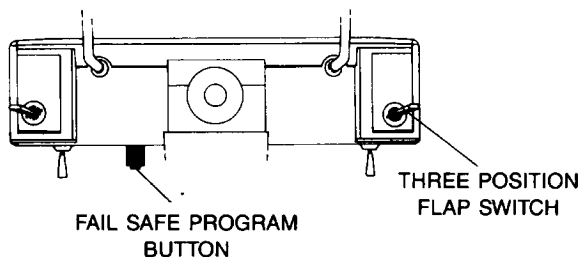

FIGURE 6
The VANGUARD PCM transmitter and receiver have a microprocessor for processing control information. If the control position data received at the receiver is not valid, or is being interfered with, etc., the data will not be accepted. Your VANGUARD PCM system gives you the choice of two types of fail safe modes. The first type is defined as "Hold." If the signal is lost or incorrect data is received by the receiver, the servos will stay at the position determined by the last good command and remain there until good data is restored. The second programmable fail safe "Position Mode" will cause the servos, after loss of a good signal data for more than one second, to go to predetermined positions, until such time as good data is received. You can select either mode of operation. If you are going to operate your system in the "Hold" mode nothing further is required other than turning the transmitter and receiver switches to the "ON" position. To operate in the predetermined servo "Position Mode" you must first turn both the transmitter and receiver switches "ON," and check the operation of the servos. Next, position the control sticks so that the model's control surfaces and throttle are at the desired positions, i.e., minimum-low throttle, slightly up elevator, etc., then, press the Fail Safe Program Push Button located on the top left front of the transmitter, (Figure 6). A beep will sound indicating you have programmed in the pre-set control stick positions. The control inputs you have set-in will be memorized and retained until such time as you disconnect the receiver battery or it is discharged. The receiver microprocessor will retain the memorized data inputs since it is furnished "KEEP ALIVE" voltage by the special PCM switch harness. You can check the fail safe operation by turning your transmitter "OFF" and "ON," or by turning another transmitter "ON" that is on the same channel. The servo should move to the programmed positions when an interfering signal is present, or when your transmitter is off. CAUTION: If you remove the receiver battery, or if it is discharged, you must reset the desired control memory data at the transmitter, otherwise, if you don't, you will be in the "HOLD" fail safe mode of operation. Fail Safe programming is only capable when in the PCM mode of operation.
The VANGUARD PCM 6 transmitter provides Flap-Elevator mixing which allows the elevator servo to move to a pre-set position whenever the flaps are lowered thus compensating for any pitch changes induced by the flaps. When the Flap switch, Figure 6, is in the "OFF" position the Flap Elevator (F→E) mix trimmer under the front panel is inoperative. When the Flap switch is moved to either position I or II you can adjust the F→E trimmer for the amount of compensation desired. Maximum elevator compensation will occur with the trimmer either fully clockwise (CW) or counter clockwise (CCW). For safety, if you do not desire to have any compensation, we recommend the F→E trimmer be centered so that inadvertent movement of the Flap switch will not cause any elevator servo movement.